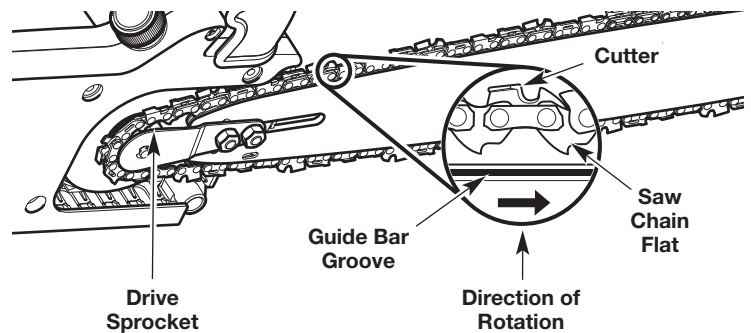

Fig. 30
6. Loop the saw chain around the drive sprocket (Fig. 30). Make sure the flats on the saw chain are in the grooves on the drive sprocket. Make sure the cutters point in the correct direction of rotation (Fig. 30).
7. Fit the saw chain into the guide bar groove (Fig. 30).